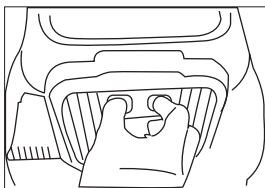

Fig 21
3. Clean the outlet filter: open the outlet cover and take out the HEPA frame and filter. Wash it and install it after the filter has fully dried.(Fig 21/22)